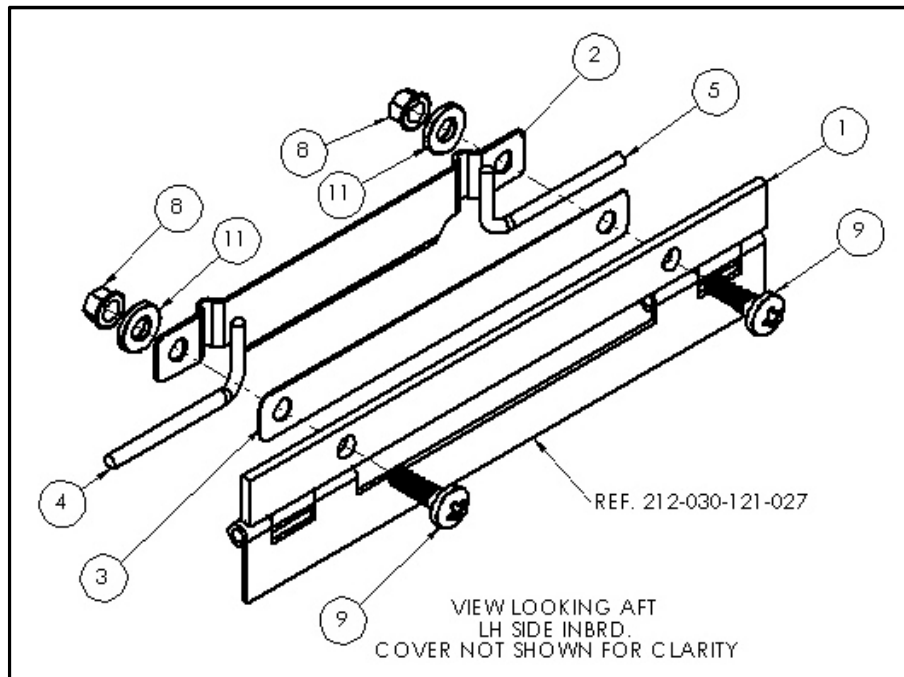

Figure 3
**4.14** Install the cover (1) with hinge pins (4) & (5). Ensure hinge pins (4) & (5) are in the correct position per drawing T17450-000-101, sheet 2, detail B and figure 3.
**4.15** Install the hinge pin retainer (2) using the following procedure per figure 3;
- Install screws (9) through cover (1) with the head against the outer surface.
- Install retainer plate (3) onto screws (9) against the inner face of the cover (1).
- Position hinge pins (4) & (5) into the notches of the retainer (2). Install retainer (2) onto screws (9) and retainer plate (3). Hinge pins may be trimmed for length to avoid contact with the tail rotor gearbox fitting P/N 212-030-103-001 and nose rib P/N 212-030-136-015, -019, or -107 as applicable.
- Install washers (11) onto screws (9) and retainer (2).
- Install nuts (8) onto screws (9) and washers (11) and torque nuts (8) to 30 inlb.